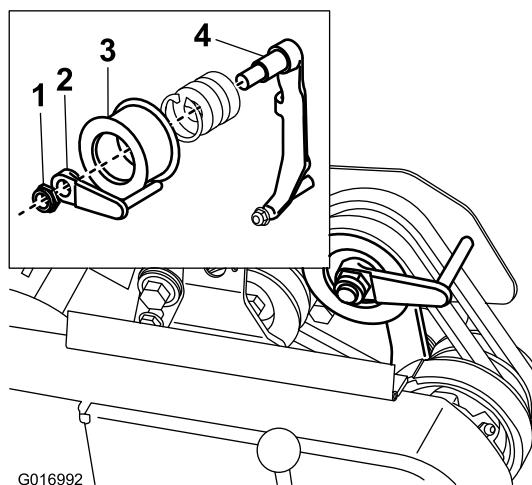

Figure 44
8. To push or pull the machine easier without starting the engine, adjust the belt guide (Figure 44, inset) as follows: